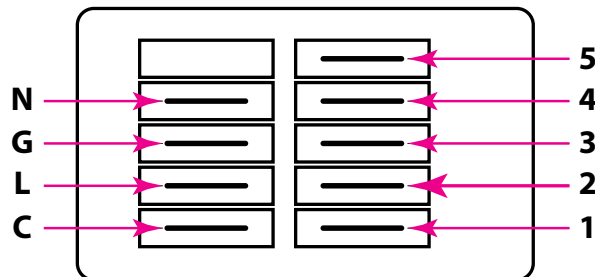

Figure 35: Constant Torque Motor Terminals
4. Move the wires connected to terminals 1-5 on the motor terminal block (See Figure 35) so they energize the desired motor speed taps for the cooling, dehumidification (hydronic heat models only), heating, and continuous fan modes. See Tables 17 and 18 for the speed tap descriptions and Figures 39 – 42 for air handler wiring diagrams.